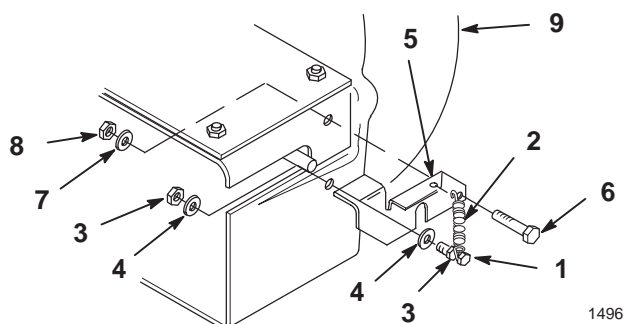

Figure 10
1. Install the long hook end of the tension spring and nut (#10) onto a bolt (#10 x 3/4 in.). Thread the nut to within 1/8 in. from the head end of the bolt, leaving enough room for the spring to rotate freely (Fig. 10).
2. Slide a washer (#10) onto the bolt and insert the bolt through the blower housing (Fig. 10), securing it with a washer (#10) and nut (#10).
5. Hook the spring into the hole in the latch and mount the latch to the blower housing with a bolt (1/4 x 3/4 in.), washer (1/4 in.), and locknut (1/4 in.) (Fig. 10). Leave the nut loose enough so that the latch pivots freely.